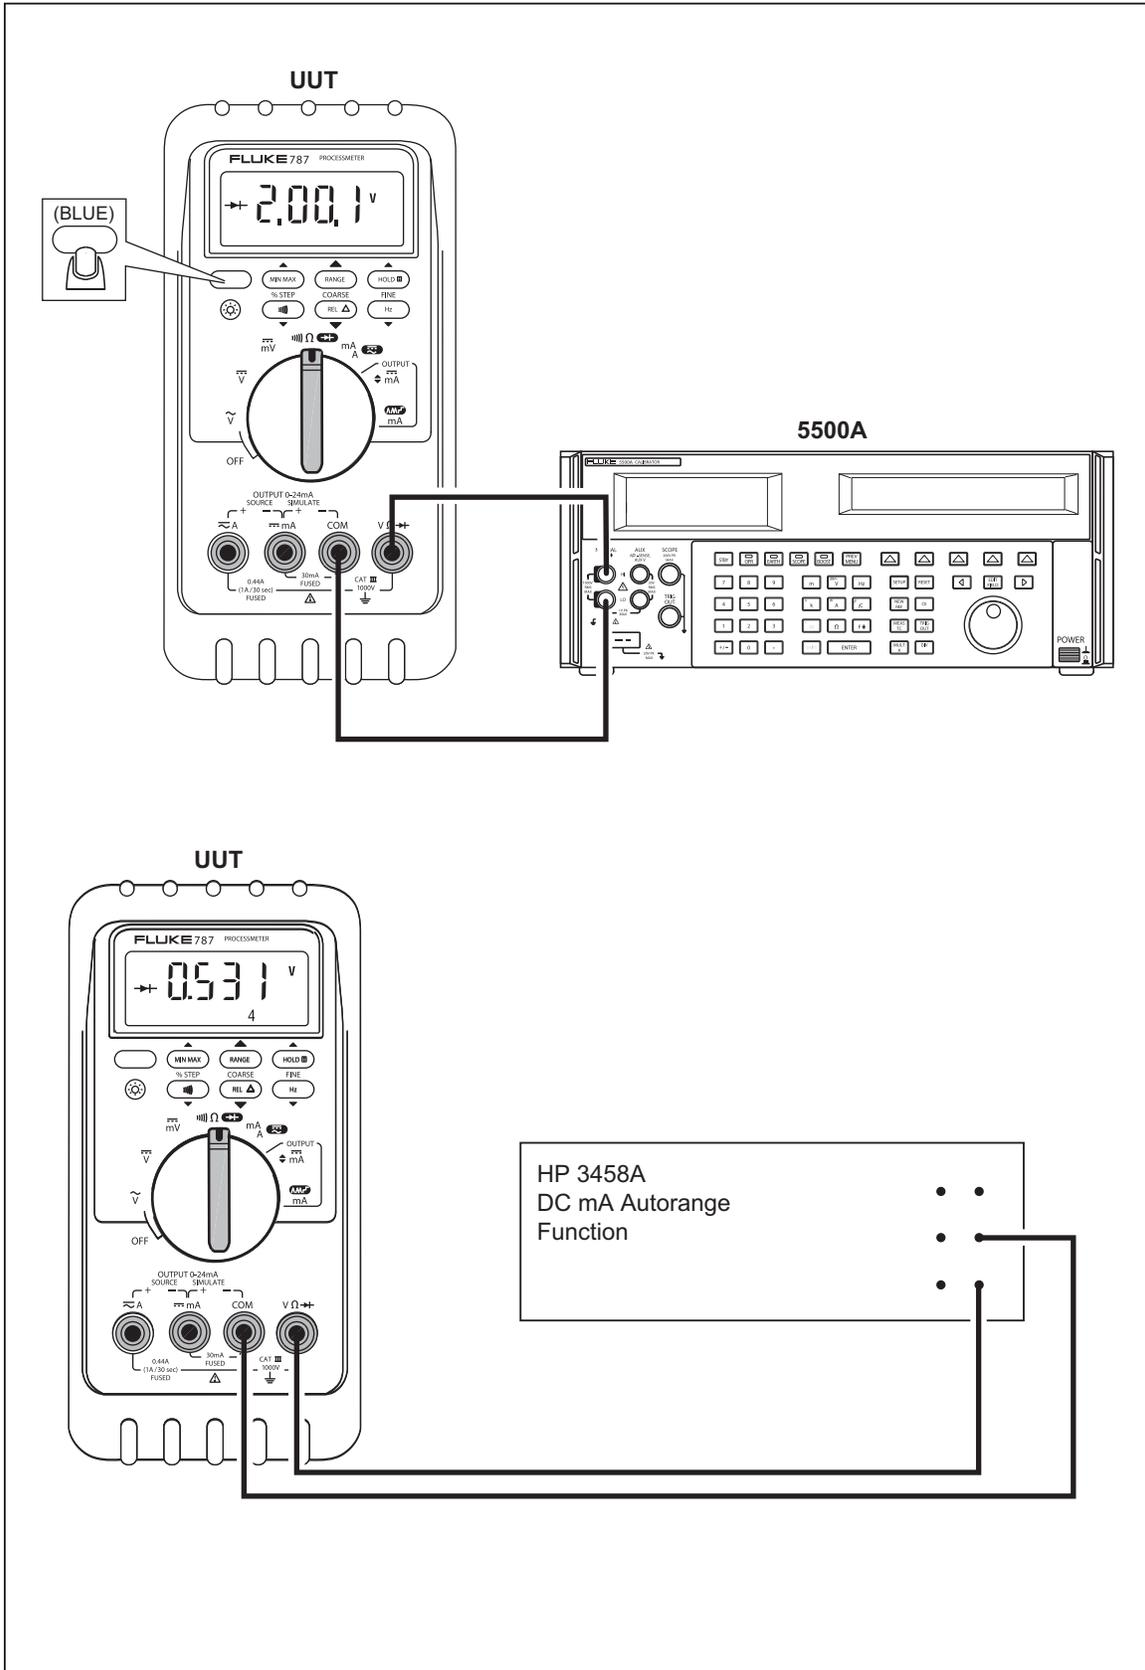

Figure 6. Diode Test Connections
4. Connect the calibrator to the **COM** and **V $\Omega \rightarrow$**  terminals on the UUT as shown in Figure 6.